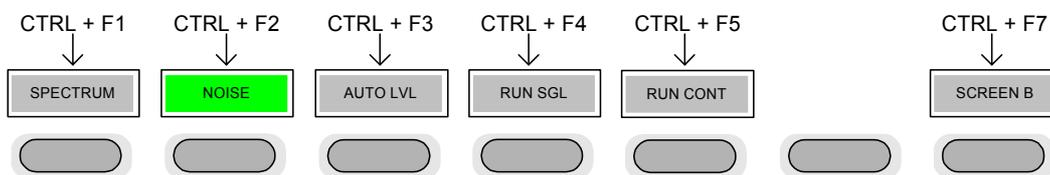

Fig. 1-5 Quick Access to Hotkeys
Used to activate hotkeys. Each of the seven hotkeys is allocated a different function (F) key. To access these hotkeys press CTRL and the corresponding F key together (see Fig. 1-5):